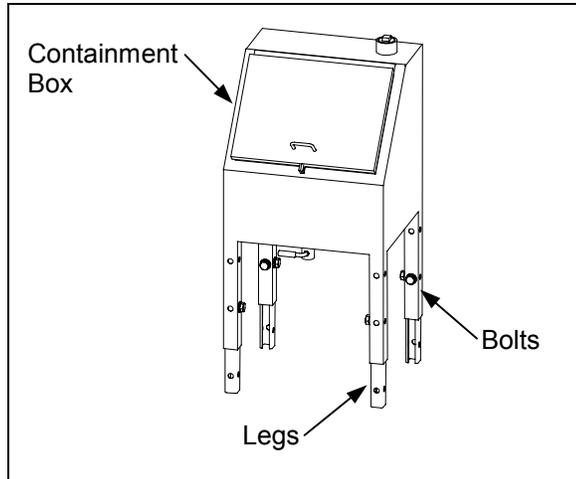

Figure 2
- The legs are shipped with the small legs inside the outer legs. Using the included 3/8 – 16 bolts (quantity eight), bolt the large legs to the flanges on the bottom of the containment box. (See Figure 2.)